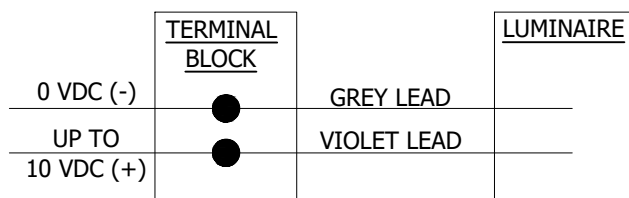

FIGURE 8
- ③ DIMMING CONTROL INSTRUCTIONS ARE FOR REFERENCE SINCE LUMENS SETTINGS ARE PRESET BY MANUFACTURER FOR ALL STOCK FIXTURES. FOR WIRED DIMMING CONTROLS, ATTACH DIMMING LEADS PER WIRING SCHEMATIC. REFER TO INSTALLATION INSTRUCTIONS FOR BOLT TORQUES. DO NOT OVER TIGHTEN BOLT. SEE FIGURE 8.